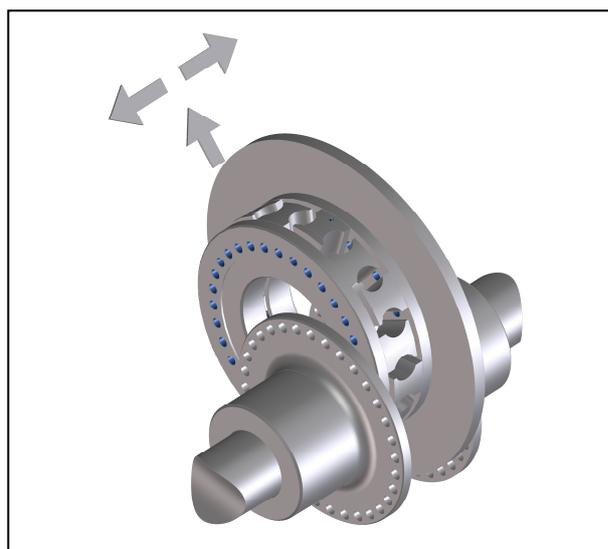

Fig. 9
- Remove the claw rings (part 434) from the centerings of the flange hubs (part 411 and 424) and push them together (Fig 9).